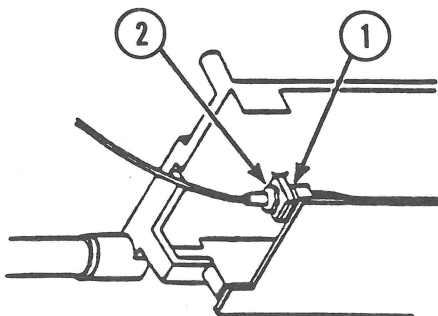

FIGURE 27
22. Using an adjustable wrench, hold the nut (Figure 27, #1) on the right side of the carrier wire in place. Using needlenose pliers, remove the wire nut (Figure 27, #2) on the left side of the carrier wire.